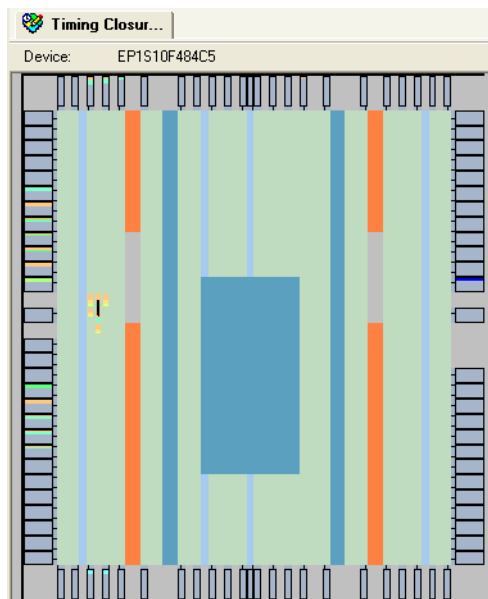

Figure 23: View of the floorplan.
- An indication of where the circuit is implemented on the chip is available by selecting **Assignments > Timing Closure Floorplan**, or by clicking the icon . Figure 23 depicts the result, highlighting in color the logic elements used to implement the circuit. To make the image appear as shown you may have to select **View > Field View**, so that the tool does not show the details of the chip resources. You also may need to select **View > Assignments > Show Fitter Placements** or click the corresponding icon in the toolbar (which is likely to be already selected by default). The floorplan view can be enlarged by maximizing the window and selecting **View > Fit in Window** (shortcut Ctrl-w), and it can be expanded to fill the screen by clicking the Full Screen icon .